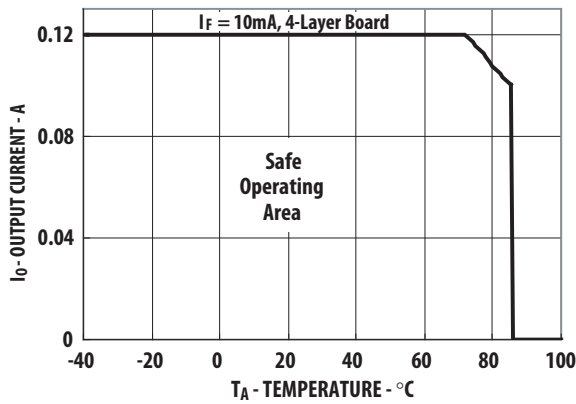

Figure 1. Maximum Output Current Rating vs Ambient Temperature (ASSR-4110-003E)
- For derating, refer to Figure 1, 2, 3 and 4.
Figure 1, 2, 3 and 4 specify the maximum average output current allowable for a given ambient temperature. The maximum allowable output current and power dissipation are related by the expression  $R_{ss} = P_o(\text{max}) / (I_o(\text{max}))^2$  from which  $R_{ss}$  can be calculated. Staying within the safe area assures that the steady state MOSFET junction temperature remains less than  $125^\circ\text{C}$ .